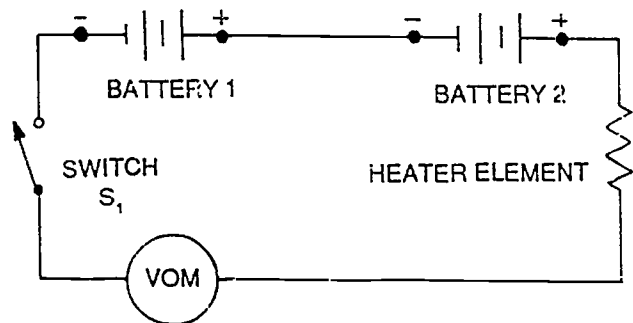

Figure 2. Laboratory setup 2.
1. Connect a second 6-V, dry-cell battery in series with the first 6-V battery that was used in the lab setup in Figure 1. Be sure to connect the positive electrode of one battery to the negative electrode of the other, as shown. This will give you a total voltage of 12 volts. Schematically, the circuit should now be like that shown in Figure 2.
2. With switch S_1 open and the VOM in the circuit, as shown in Figure 2, be sure the function switch on the VOM is set for current measurement. Be sure the range switch has been adjusted to the proper value. Be sure the meter terminals are properly connected. Ask your instructor to examine your setup before proceeding to Step 3.